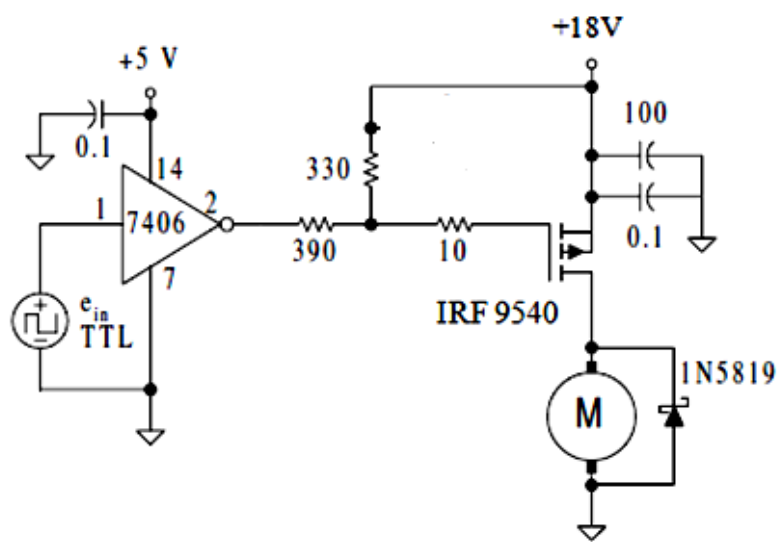

Figure 1. High-side switch circuit
- To drive the circuit with a logic level, add the 7406 open collector to the input. It requires a pull-up resistor, R_1 , connected to the high voltage supply. Since this supply is greater than the 18 V maximum V_{GS} that the IRF9540 can withstand, a voltage divider must be included, R_2 . This voltage divider is different from the one used with the n -channel low side switch. Both the source and the gate of the MOSFET are at +18Vdc, as shown in Figure 1.
- Build the circuit in Figure 1. Take particular care to keep the leads as short as possible, and to provide the separate common returns for the logic, the motor, and the decoupling capacitors. The load in this case is a DC motor. Connect a Schottky diode *directly* across the load terminals.